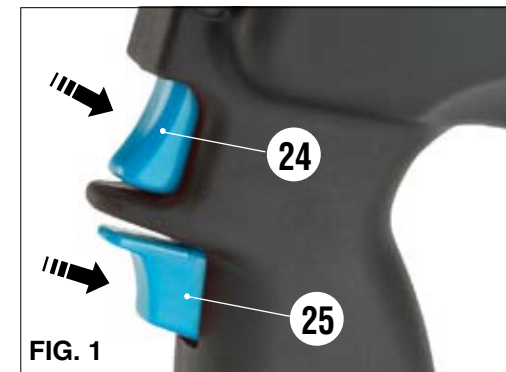

FIG. 1
2.2) Operation (Ref. to Fig. 1)
- Press operating-button (24) to activate the motor-pump group for the advancement of the lower die. To halt the advancement, release the operating-button and the motor will cut out.
- By keeping operating-button (24) pressed down the motor continues to operate: the ram will gradually move forward until the two dies touch.
- By pressing the pressure release button (25) (Ref. to Fig. 1) positioned below operating-button (24), the ram will retract and the dies open.